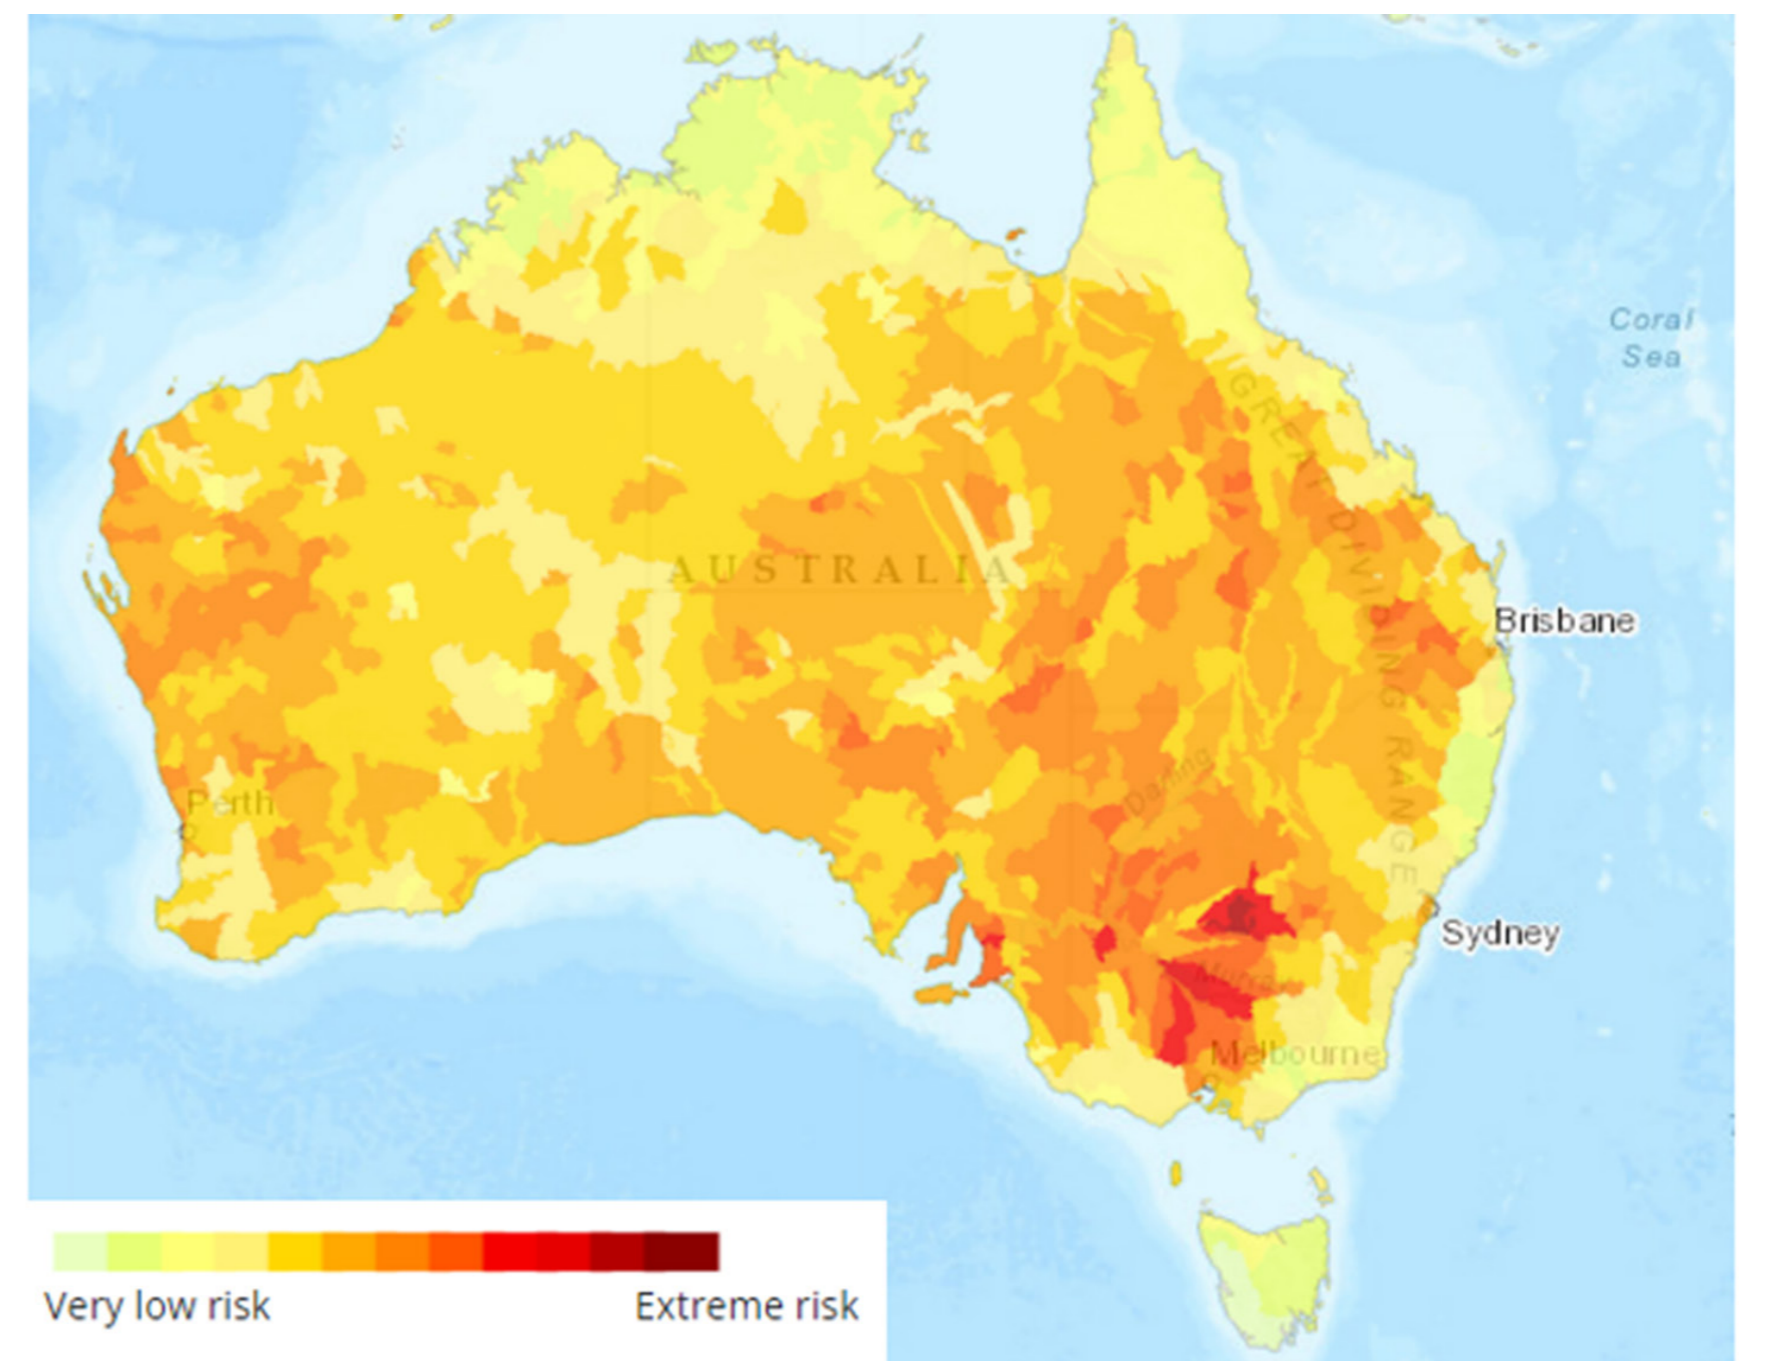

Figure 2: Water scarcity risk map of Australia in 2050 based on current trend (Source: WWF Water Risk Filter)
- Figure 2 below depicts the Australian continent with a comparison made to areas of water stress